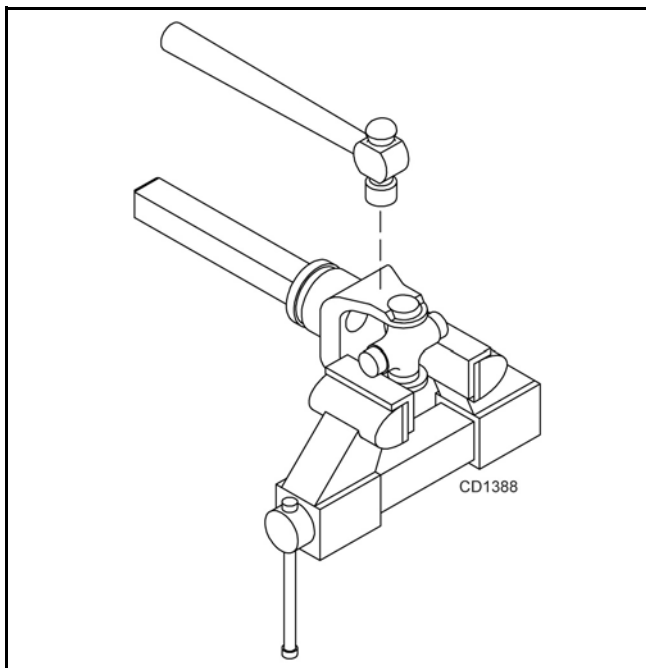

Figure 17
4. Place universal cross in vise as shown in Figure 17 and tap on yoke to remove cup. Repeat Step 3 for final removal. Drive remaining cup out with a drift and hammer.